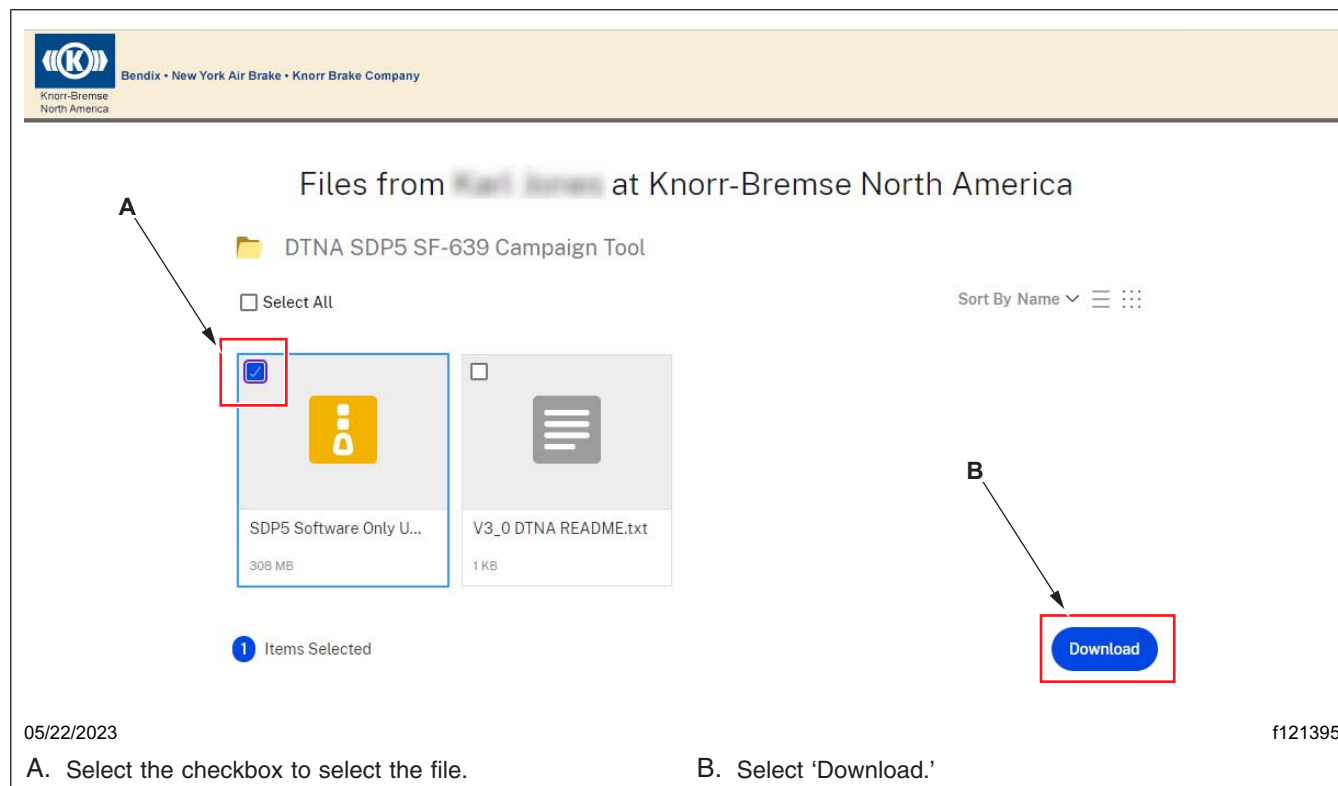

Fig. 2, Starting Download
- Select the checkbox corresponding to the 'SDP5 Software Only U...' zip file, indicated by the larger file size than the other file. Select 'Download.' See Fig. 2.